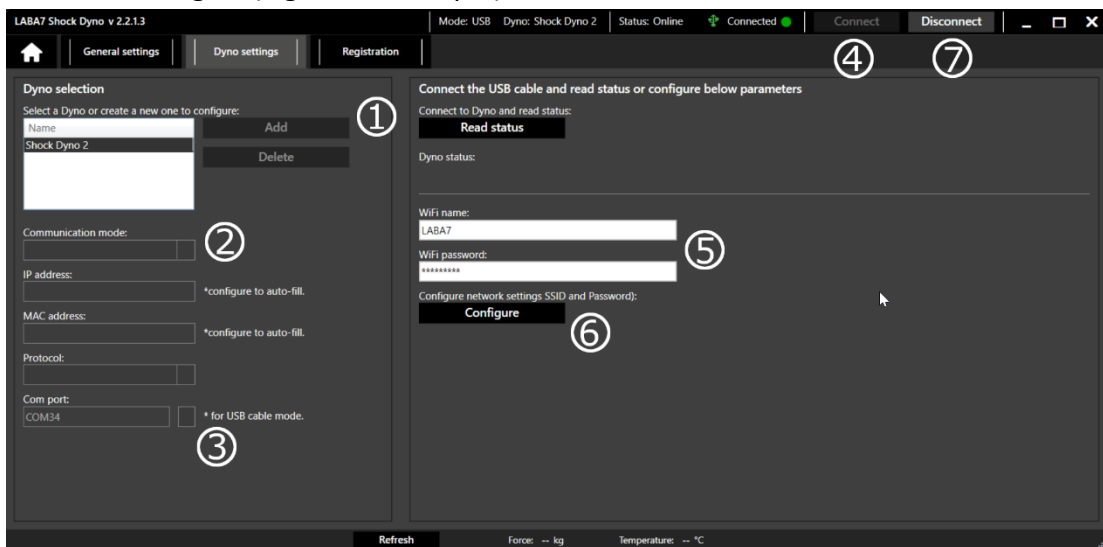

Figure 19
6. Press “add” (Figure 19 – Step 1).
7. Select USB communication mode (Figure 19 – Step 2).
8. From 2 newly appeared com-ports select `COM6 - LABA7 Dyno` (Figure 19 – Step 3).
9. Press “Connect” (Figure 19 – Step 4).
10. Enter Wi-Fi name and password into the corresponding fields (Figure 19 – Step 5).
11. Click on Configure button (Figure 19 – Step 6).
12. After successful configuration press “disconnect” (Figure 19 – Step 7).
14. Press “connect” again (Figure 19 – Step 4)